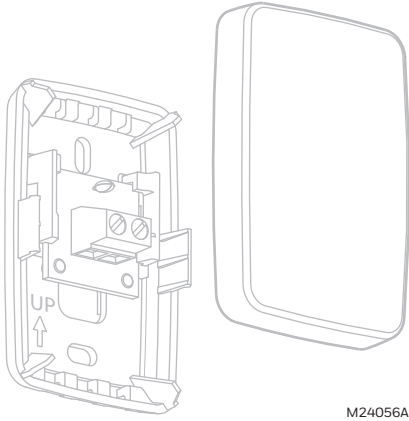

Fig. 71. Remove the cover.
1. Remove the cover from the remote sensor (see Fig. 71).